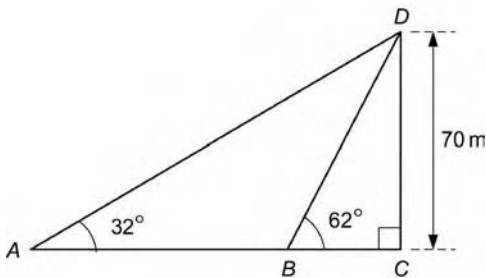

Figure 3.13
- In the Figure 3.13, the angles of elevation of A and B to D are 32° and 62° , respectively. If $DC = 70$ m, calculate the length of BC .